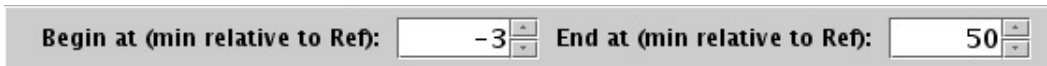

Figure 14. Timeline duration.
**Step 1:** Choose the starting point for the Timeline. Use either the up and down buttons next to the "Begin at (min relative to Ref):" text box or manually enter a number of minutes into the text box (Figure 14).